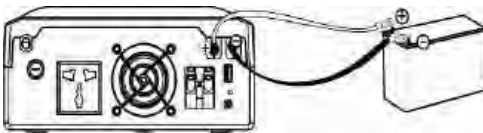

Fig. 2
1) Single battery connection (Refer to Fig. 2): When using a single battery, its voltage must be equal to the Nominal DC Voltage of the unit (see below Table 1)